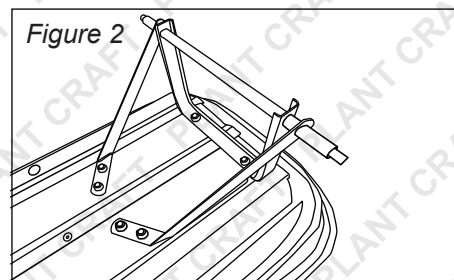

Figure 2
2. See *Figure 2*. Install the rear axle (4) to the tray (1) using 2 screws (12), washers (14) and nuts (15).